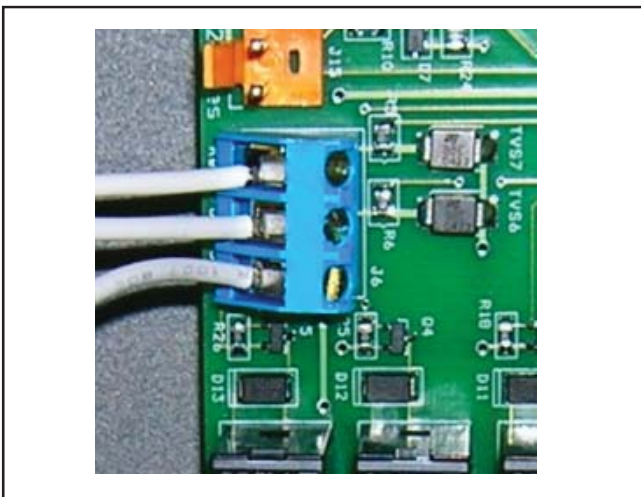

Figure 16a. Remote Pool-Off-Spa Connection (3-Wire Connection)
4. Connect the wiring from the pool/spa control system to the heat pump remote control terminal (see Figure 16a).